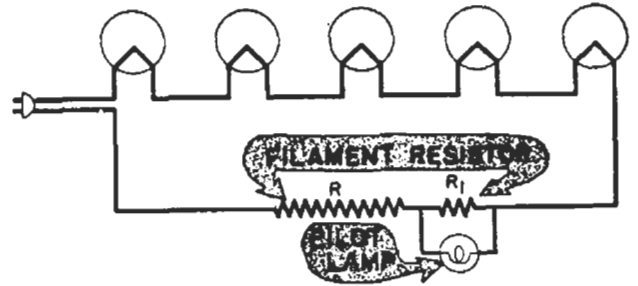

FIG. 9. The pilot lamp can be connected across a tapped section of the filament resistor.
► When a series filament resistor, ballast tube or line cord is used, a tap on the resistor element may provide a shunt resistance, as shown in Fig. 9. If desired, the section  $R_1$  can be a separate resistor.
The pilot lamp shown in Fig. 8 will go through this same action, then become brighter again. As in Fig. 9, the first brilliant flare is caused by the extra current flow in the filament circuit. The pilot lamp dies down until it practically goes out as the filaments warm up. Then when the tubes draw plate current from the B power supply, the rectifier plate current flows through the pilot lamp and again lights it up.